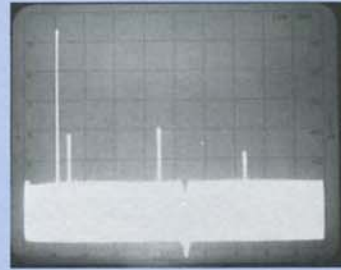
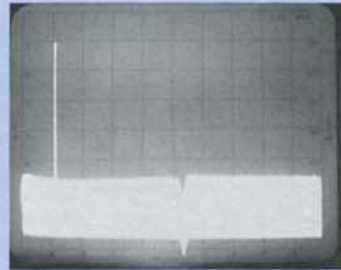

Figure 30A.
Figure 30B.
- Disconnect signal generator output cable from INPUT of preselector and connect to INPUT of spectrum analyzer. Change signal generator frequency to 2500 MHz. Change FREQUENCY BAND SCALE to the $n = 2-$ (2.05 - 6.15 GHz) mixing mode. Set the output attenuator in 8616A Signal Generator to -15 dB. Notice the increase in harmonic distortion products. See Figure 30A. Reconnect the preselector. Note the disappearance of the distortion products as well as multiple and image responses. See Figure 30B.